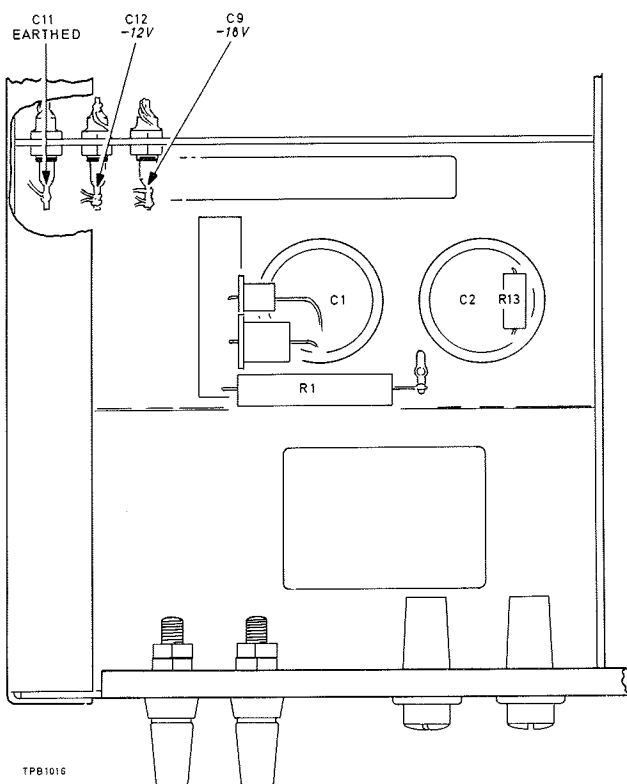

Fig. 5.2 Regulated supply measuring points
- (1) Measure the output of the -18 V and -12 V regulated supplies at the points illustrated in Fig. 5.2.